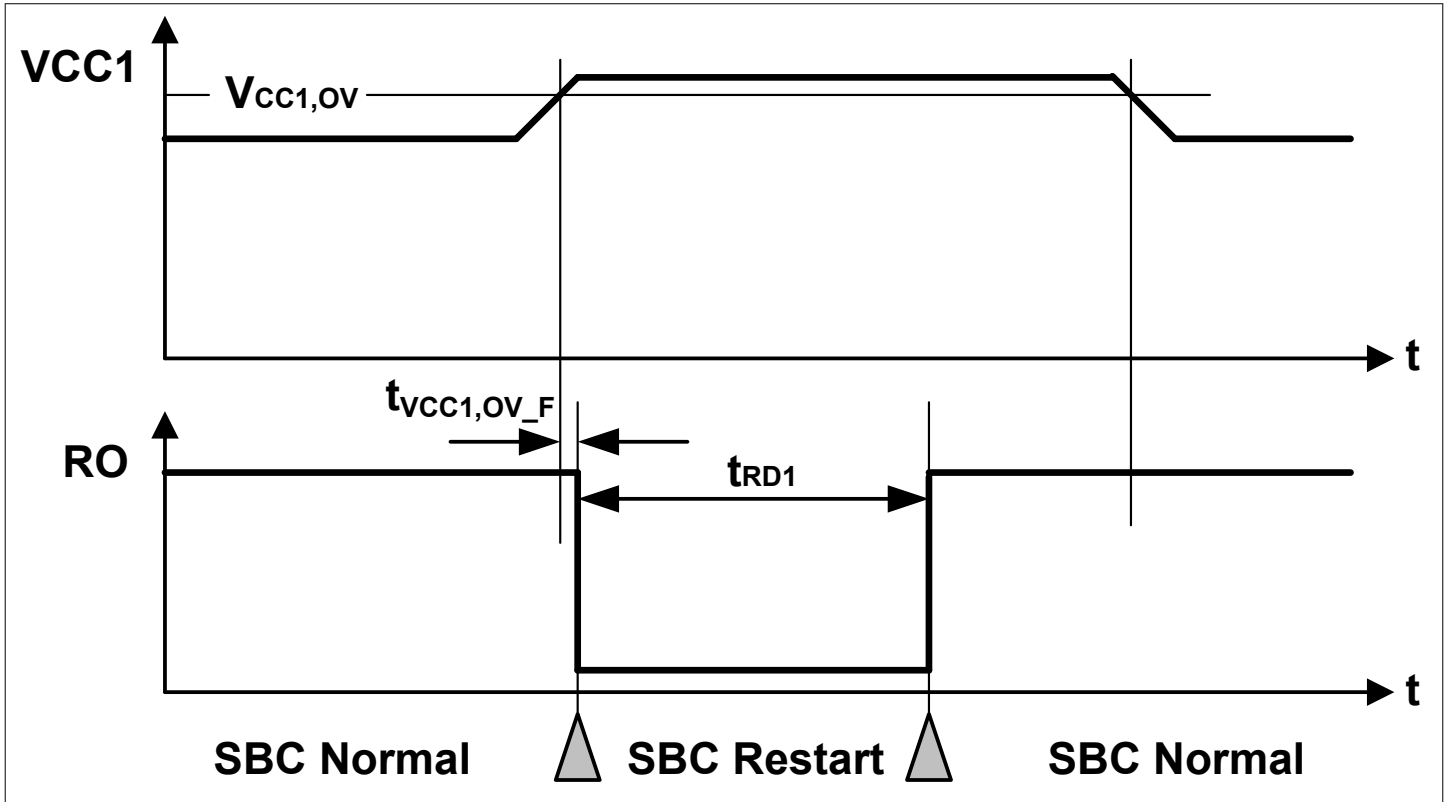

Figure 53 VCC1 Overvoltage Timing Diagram
- If the bit `VCC1_OV_RST` is set and `CFG_P` = '1', then SBC Restart Mode is entered. The FOx outputs are activated. After the reset delay time (`t_RD1`), the SBC Restart Mode is left and SBC Normal Mode is resumed even if the VCC1 overvoltage event is still present (see also Figure 53). The `VCC1_OV_RST` bit is cleared automatically;